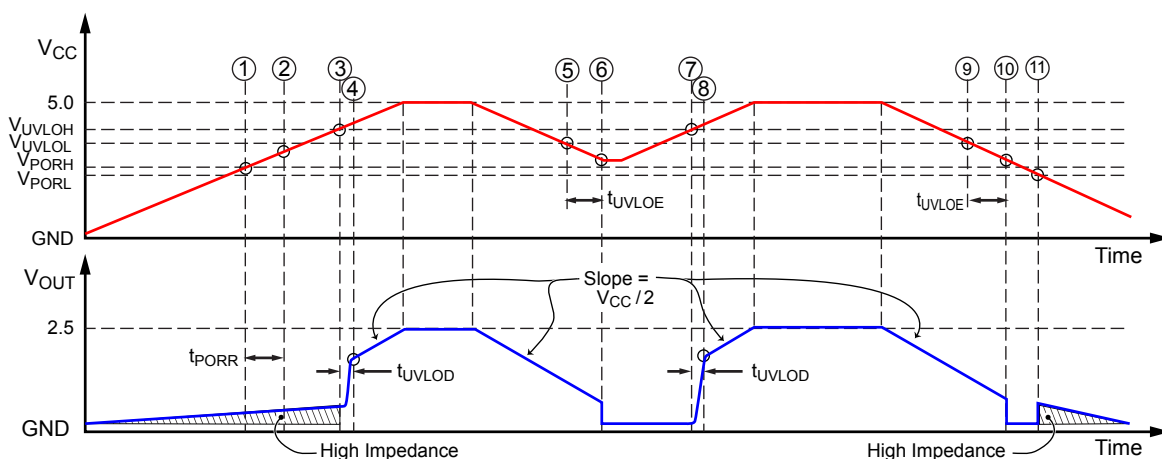
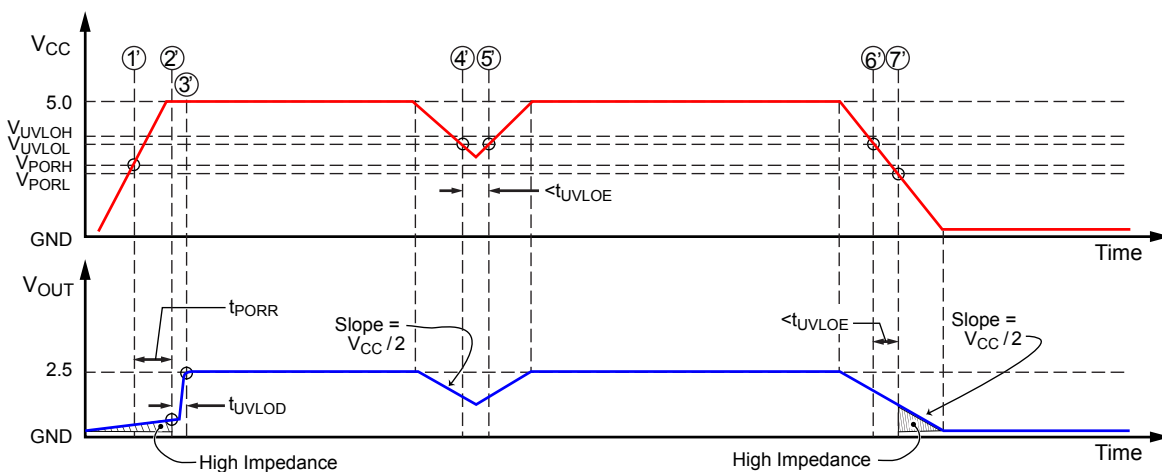

Figure 8: POR and UVLO Operation: Slow Rise Time Case
Figure 9: POR and UVLO Operation: Fast Rise Time Case
- **Power-Up** At power-up, as V_{CC} ramps up, the output is in a high impedance state. When V_{CC} crosses V_{PORH} (location [1] in Figure 8 and [1'] in figure 9), the POR Release counter starts counting for t_{PORR} . At this point, if V_{CC} exceeds V_{UVLOH} [2'], the output will go to $V_{CC}/2$ after t_{UVLOD} [3']. If V_{CC}